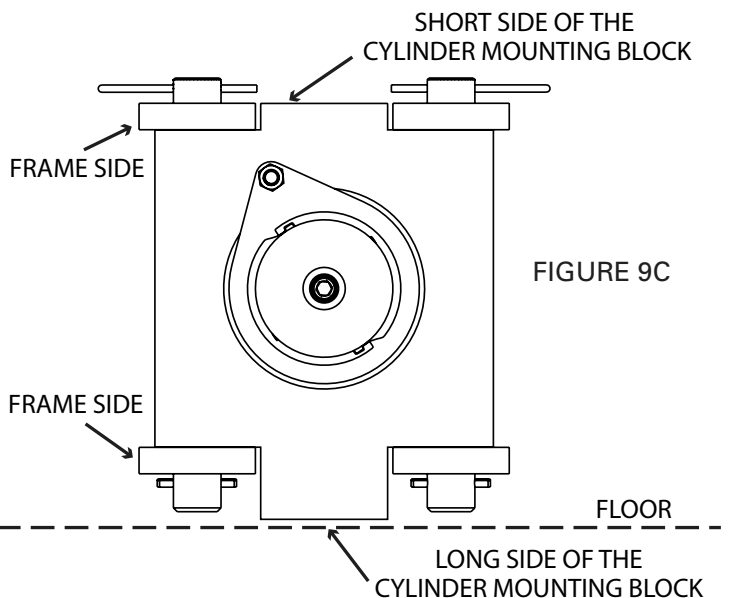
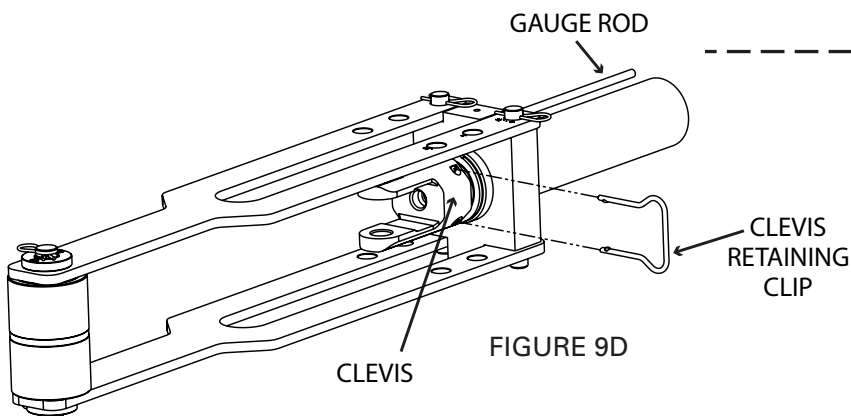

FIGURE 9C
FIGURE 9D
- Rotate the frame and hydraulic cylinder so the long side of the cylinder mounting block is resting on the floor (See Figure 9C). Then place the clevis onto the end of the hydraulic cylinder and secure with the clevis retaining clip (see Figure 9D).